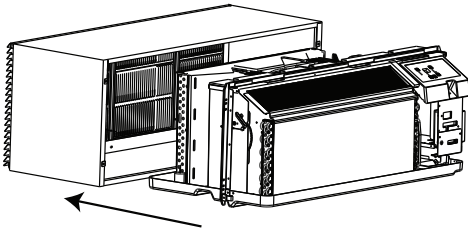
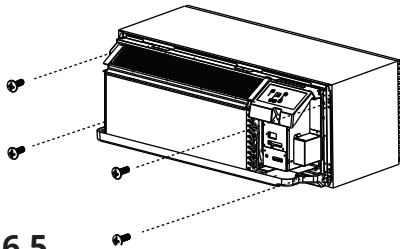

Fig. 6.4
Fig. 6.5
6. Lift the unit until it is level and slide it into the wall sleeve until it is firmly against the front of the wall sleeve. Then, secure it with 4 screws and washers (supplied with the sleeve assembly) through the unit flange holes. Refer to **Fig. 6.4** and **Fig. 6.5**.